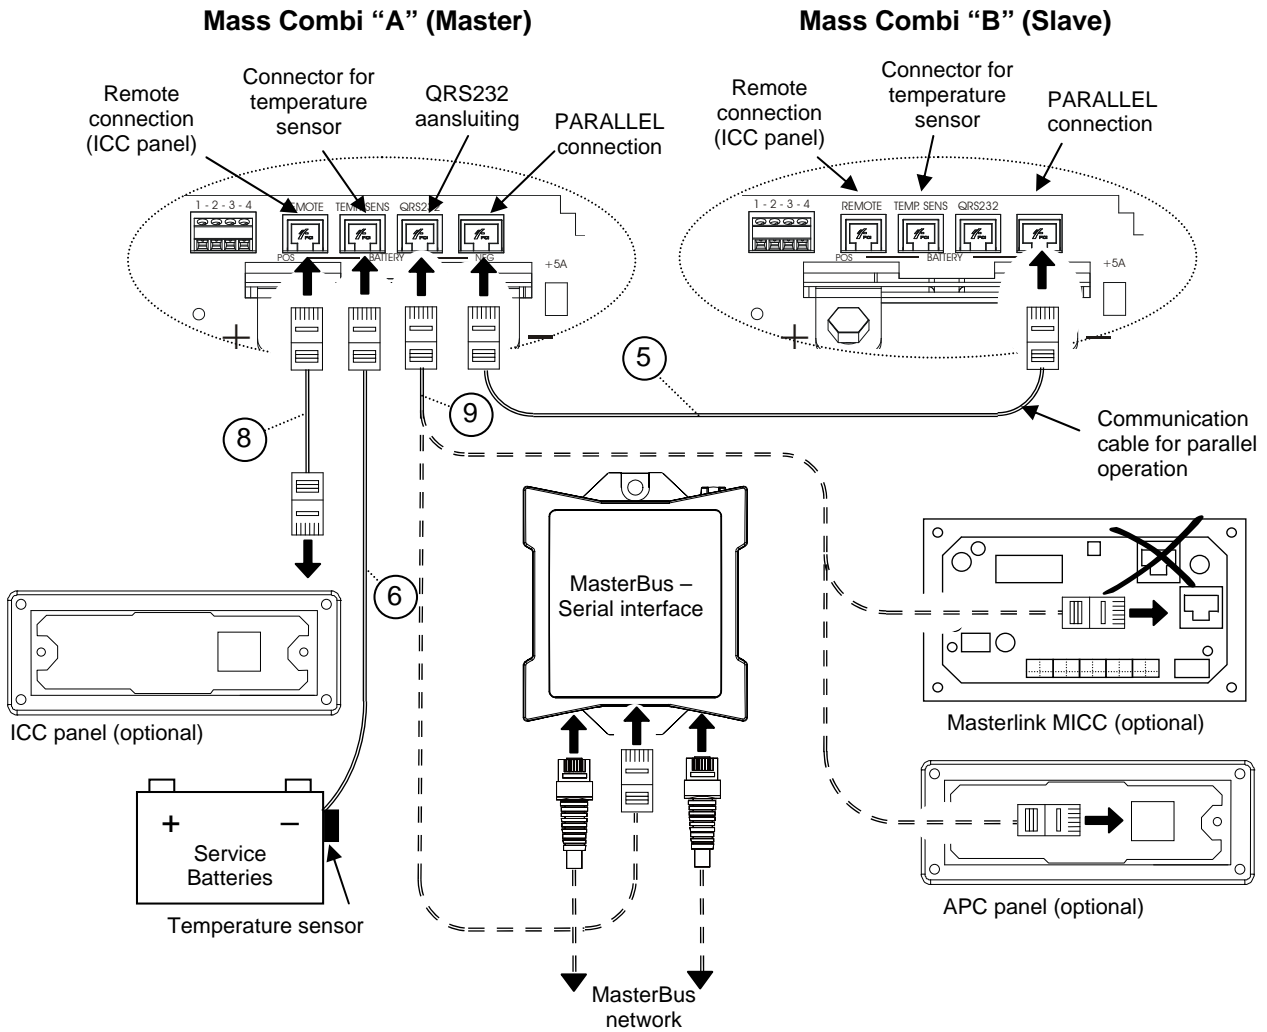

Figure 29: Connection of remote control panels, battery temperature sensors and communication cable for parallel operation
- See figure 29, reference ⑤. Run the modular 8-pole communication cable between Mass Combi "A" and Mass Combi "B". Connect this cable to the PARALLEL connectors.
- See reference ⑥. Attach the temperature sensor to the battery and run the cable into Mass Combi "A" and connect the RJ12 connector to the "TEMP.SENS"-connector (Data Bus Connections)
- See figure 29, reference ⑧. If you want to install the ICC remote control panel, run the communication cable between Mass Combi A and the panel. Connect the RJ12 connector to the "REMOTE"-input (Data Bus Connections) of Mass Combi A.